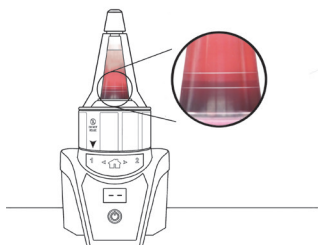

Figure 9
4. Stop the red blood cell removal mode by rotating Disposable Unit ▼ to the Home Position (house icon) when the border between the red blood cell and plasma sections is between the red blood cell removal stop lines (two horizontal markings) on the Disposable Unit (Figure 9).